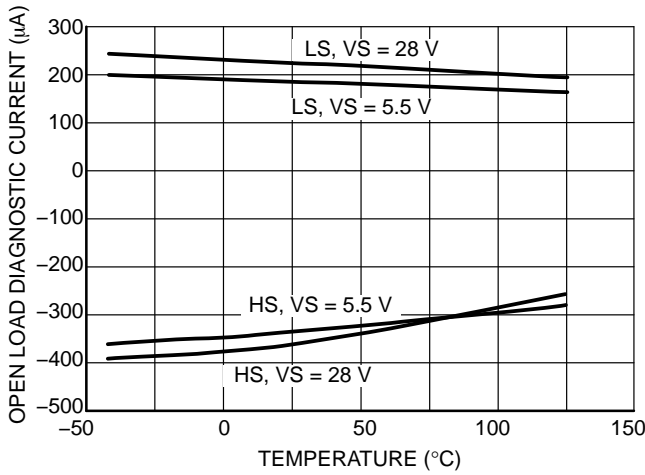

Figure 19. Open Load Detect Current vs. Temperature
- Refer to Figures 19 and 20 for open load diagnostic current behavior.